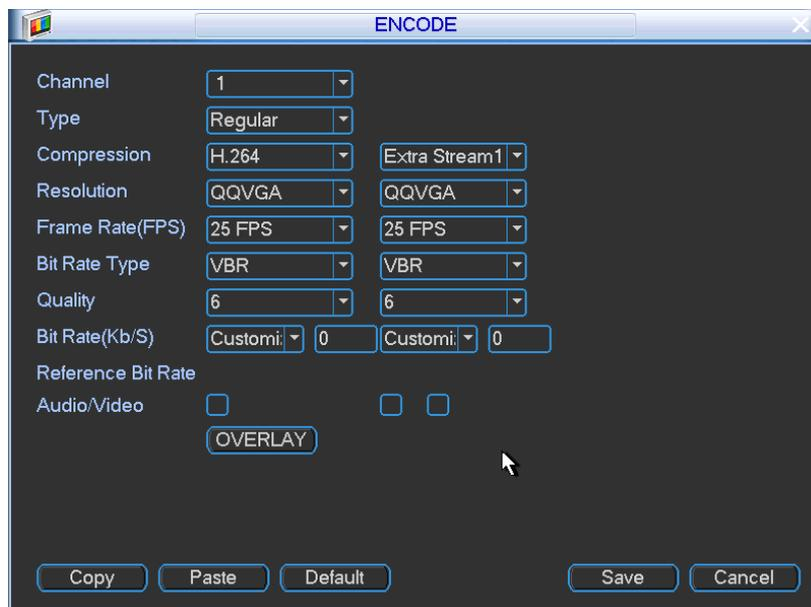
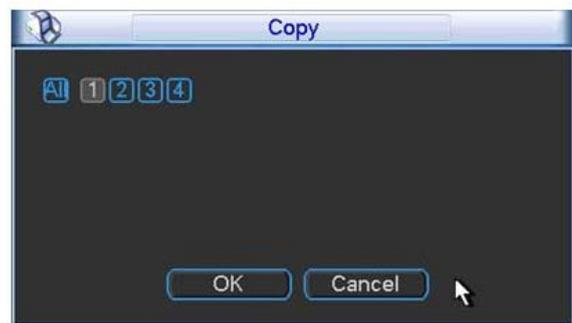

Figure 4-57
Figure 4-59
Encode setting includes the following items. See Figure 4-57.
- Copy: After you complete the setup, you can click Copy button to copy current setup to other channel(s). You can see an interface is shown as in Figure 4-59. You can see current channel number is grey. Please check the number to select the channel or you can check the box ALL. Please click the OK button in Figure 4-59 and Figure 4-57 respectively to complete the setup.